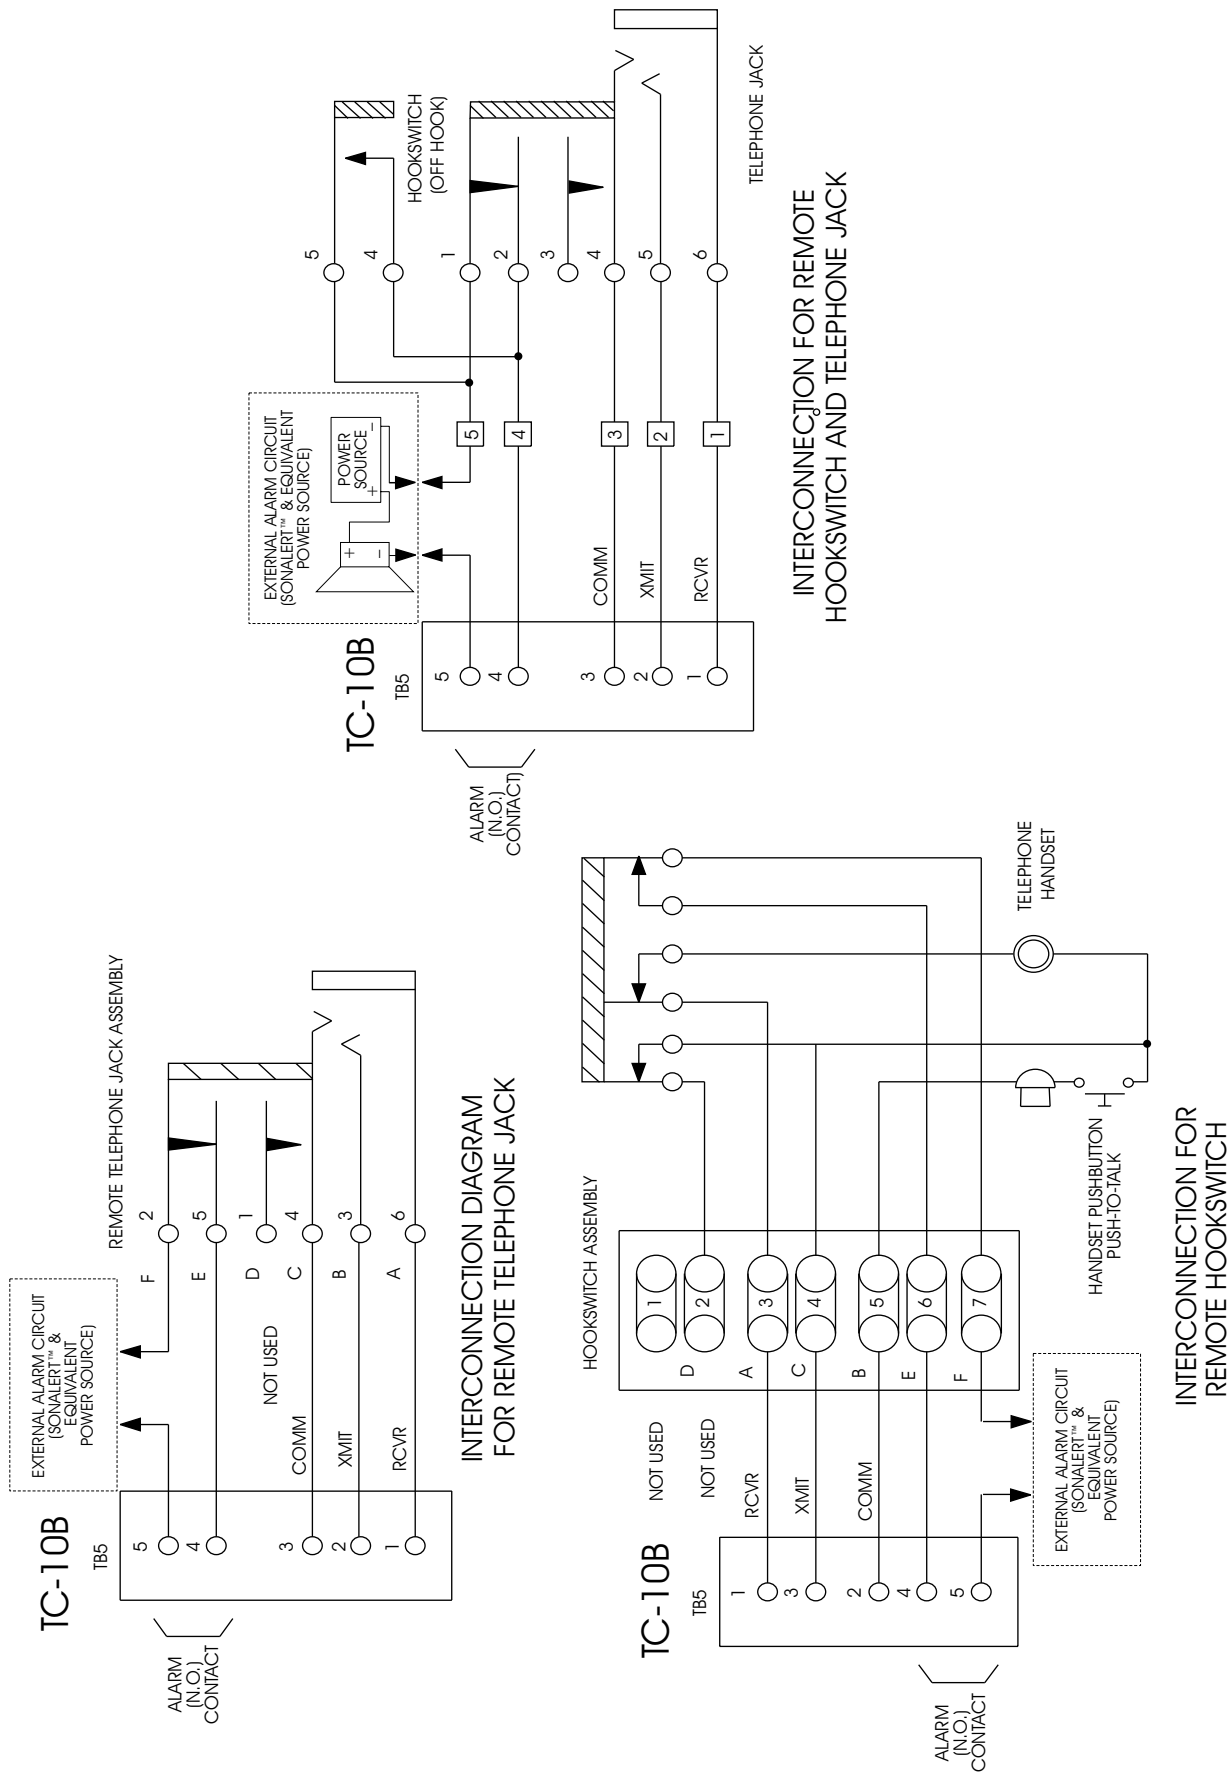

Figure 17-6. TC-10B Connections for Remote Phone & External Alarm (9651A87).
To configure for external ringing, disable the internal beeper by setting SW1-4 to the UP (OPEN) position (see "DIP Switch Settings" later in this chapter). Then connect an external alarm, as shown in Figure 17-6.
TB5 terminal block on the TC-10B rear panel. Use the wiring diagram in Figure 17-6 as a guide.
2. Connect a remote hookswitch and an external alarm circuit in series with the TB5 terminal block on the TC-10B rear panel. Use the wiring diagram in Figure 17-6 as a guide.
2. Connect a remote hookswitch, a remote telephone jack, and an external alarm circuit in series with the TB5 terminal block on the TC-10B rear panel. Use the wiring diagram in Figure 17-6 as a guide.